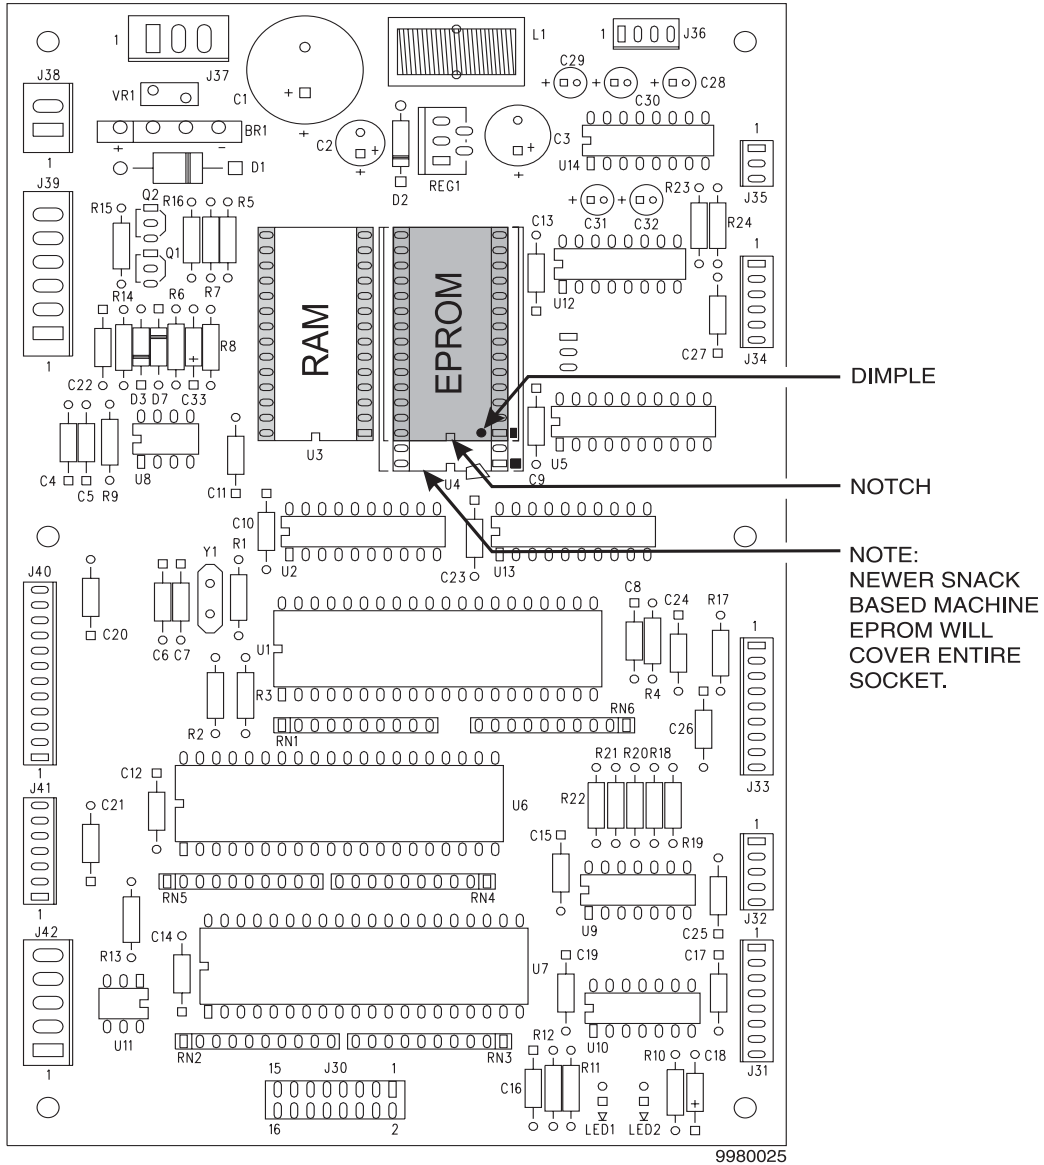

Figure 1
1. See the shaded area representing EPROM U4 (figure 1). These devices have various means of showing how they are to be oriented on the circuit board. Some EPROMs will have a small notch which matches the notch printed on the controller board. Other EPROMs may have a small dimple as shown, others may have a painted stripe. Take note of where the locating mark is on the EPROM currently mounted on the controller board. Your new EPROM will be placed in that same orientation. Some EPROMs have 28 pins, (opposed to 32 pins on newer snack-based models), so they will not use the entire socket (Newer snack-based machine's EPROMS will cover entire socket). The shaded area on the figure is where the new EPROM will go, leaving the four holes at the bottom of the socket empty if you are using older EPROM.